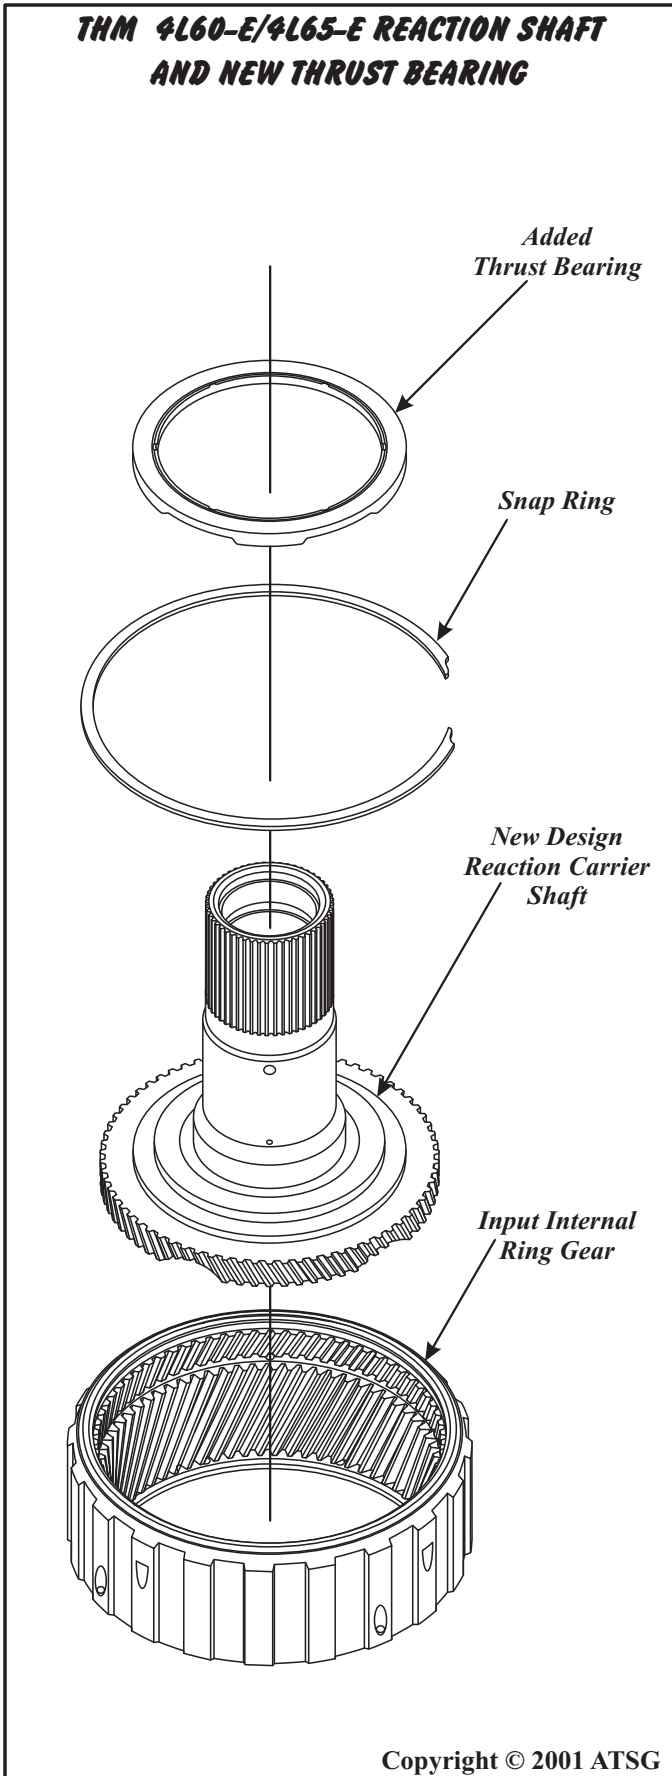

Figure 3
- (1) 3-4 CLUTCH APPLY PLATE - Required dimensional changes to accommodate the added friction and steel plate. The new design level is .218" thick and the previous design level thickness is .224", as shown in Figure 3.